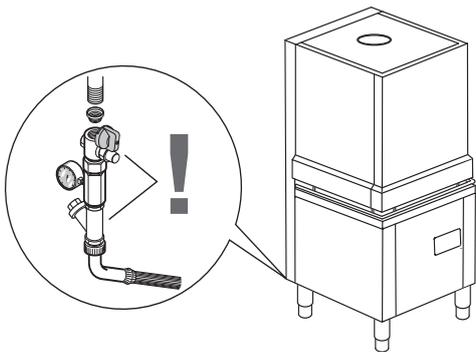

Fig. 6
- Connect the appliance water supply pipe "A" (Fig. 1.a/Fig. 1.b) to the mains, fitting a cut-off cock, the filter provided and a pressure gauge between the appliance and the mains (Fig. 6).